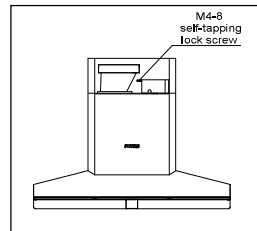

Figure 4
11. Using two people, hang the range hood on the machine hook and use the horizontal ruler to keep it horizontal. Fix the range hood and the main machine hook with a M4×8 screw as shown in Figure 4.